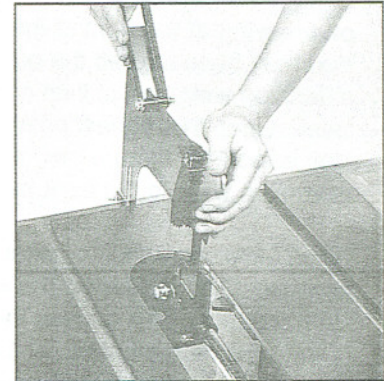

Fig. 14
5. Slide the front tab of the blade guard splitter onto the hex cap bolt and lock washer on the splitter bracket. (Fig. 14). Insert rear tab between the locating plate and flat washers. Tighten hex cap bolts holding rear of blade guard just enough to hold in place.